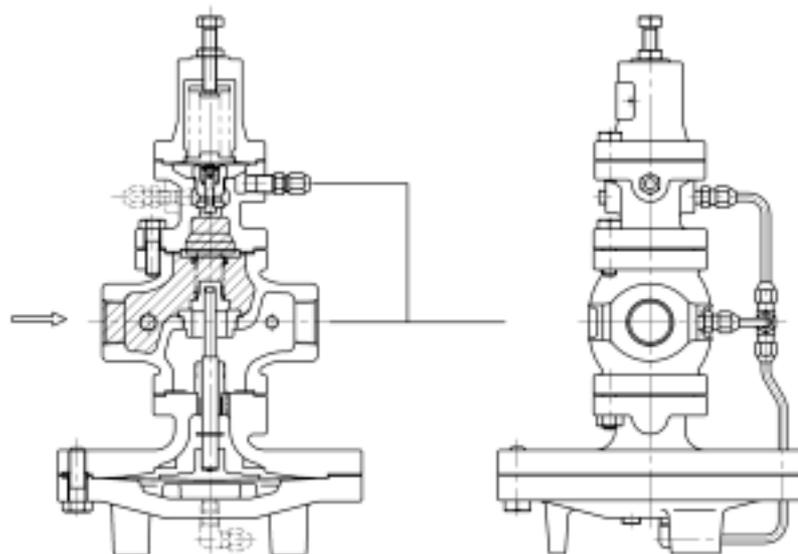

Fig. 1
(1) When the pressure reducing valve is mounted correctly, releasing the compression of adjusting spring [24] allows main valve spring [13] and pilot valve spring [19] to close main valve [6] and pilot valve [17]. Slowly open the gate valve and allow the high pressure fluid to flow in. Inlet pressure is applied to the upside of the main valve. High pressure fluid passes through screen [15] to also apply inlet pressure to the downside of the pilot valve. (**Fig. 1**)